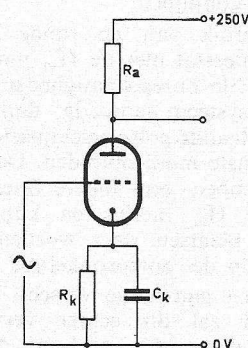

Fig.4
1. In fig. 4 is $R_k = 200 \Omega$. De span-